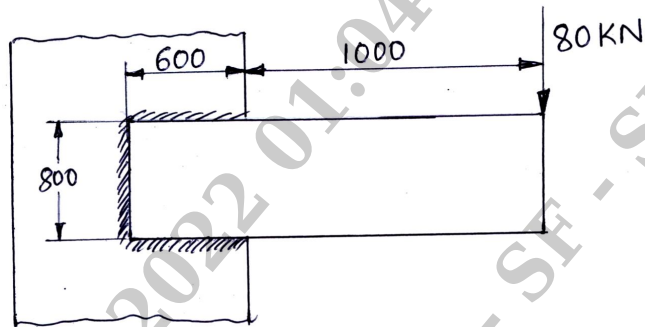

Fig.Q7(c)
- c. Suggest a suitable size for a welded joint loaded as shown in Fig.Q7(c). Assume $\tau = 90 \text{ MPa}$.